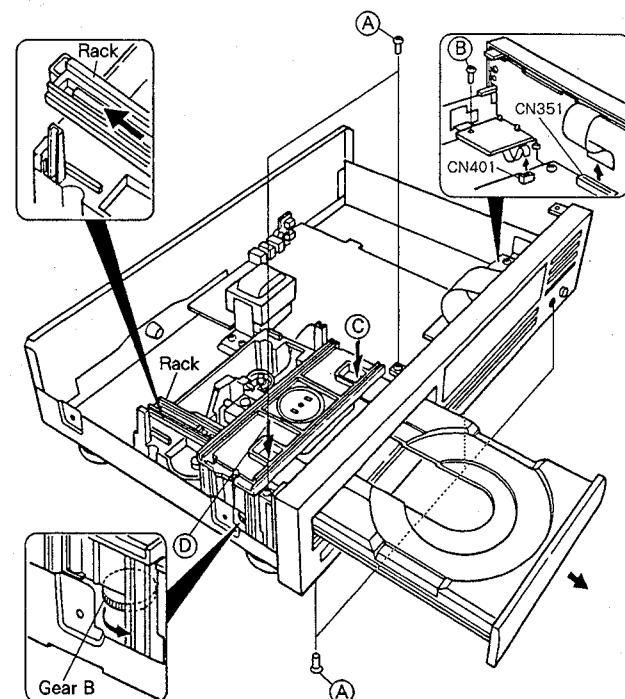

Fig. 2-2
- ① Turn the POWER switch ON, and open the tray by the OPEN/CLOSE key. (Refer to the Note 1 when opening the tray by hand-operated.)
- ② Pull out the tray slowly by pushing the nail of the tray section from two holes ④ and ⑤ of the clamp holder (Fig. 2-2). (It is necessary to push the nail of the tray section at the front panel portion.)
- ① Remove five screws ① (Upper side is two screws and under side is three screws.) to the front panel.
- ② Remove a screw ② to the Headphone board assembly (Fig. 2-2).
- ③ Disconnect two connectors CN351 and CN401 from the Mother board assembly (Fig. 2-2).
- ④ Remove the front panel and the Headphone board assembly together.
- ① Turn the gear B slowly in the direction of arrow by  $\ominus$  screwdriver with care not to damage the gear B (Fig. 2-2).
- ② Turn gear B until the tray starts to move in the direction of the OPEN position.
- ③ Move the tray to the OPEN position by hand.